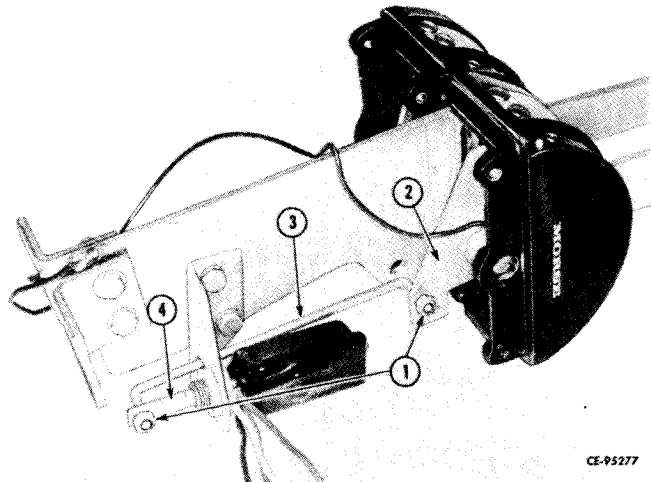

Figure 9-7
Disconnect link (3, Fig. 9-7) from directional control lever (2) and neutral safety switch spool (4) by removing nuts (1) and "O"-rings.